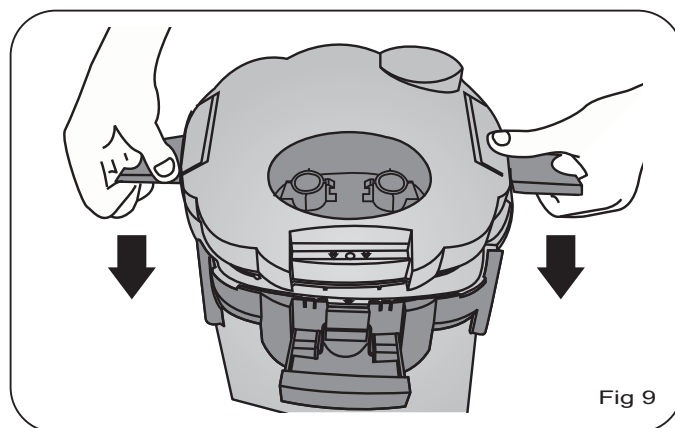

Fig 9
12. Close the 2 handles. Do not force the unit together! If it feels tight do not apply any excess pressure to close it simply, remove the head unit and filter baskets and try again. Fig 9